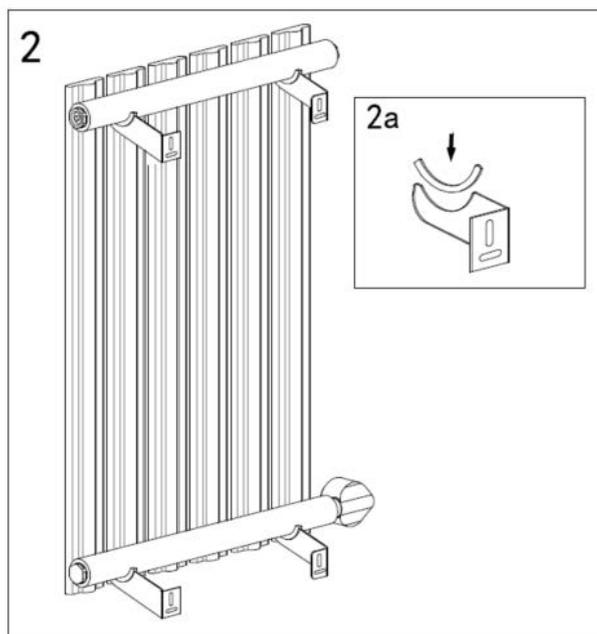

Figure 3 | Fixing the radiator brackets
2. Place the Bracket Guards (C) in the Brackets (A, B), as seen in Figure 3.